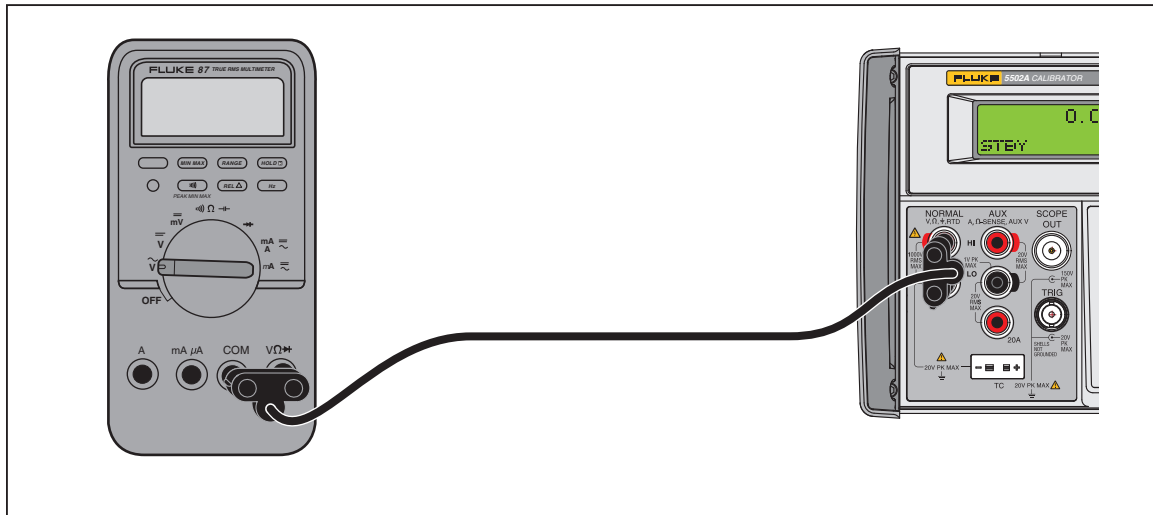

Figure 4-15. Cable Connections to Verify 80 Series General Functions
2. Make sure that the Calibrator is in standby and connect the DMM as shown in Figure 4-15.